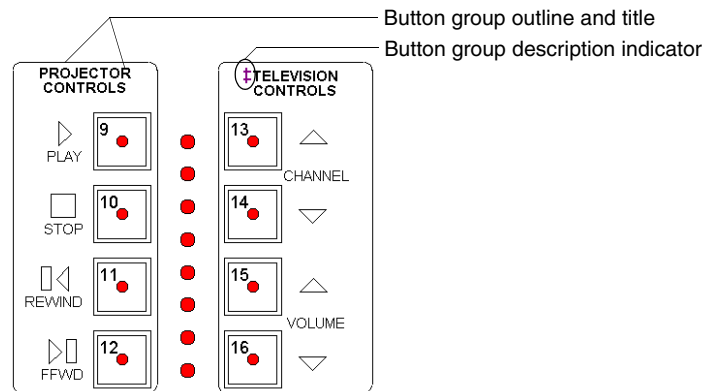

FIG. 13 Sample button group outline, title, and description indicator
6. Then, set the text size, font, direction, and vertical/horizontal position in relation to the active buttons. Then, click OK to save the text, close the dialog, and return to the main window. You can also use the Below Button option to locate the text next to the button number you enter into this field. FIG. 13 shows a sample button group outline, title, and description indicator.